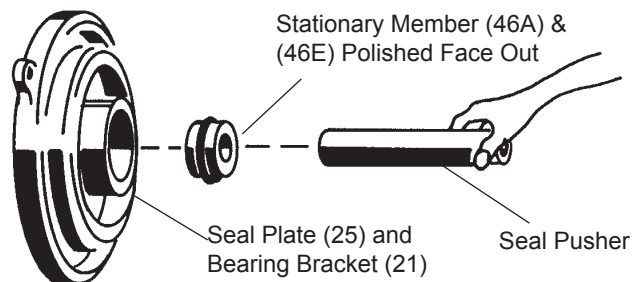

FIGURE 9
Seal - Clean and oil seal cavities in bearing bracket (21) and seal plate (25). Lightly oil (**DO NOT use grease**) outer surface of inboard stationary member (46E) and outboard stationary member (46A). Press inboard stationary member (46E) firmly into bearing bracket (21) and outboard stationary (46A) into seal plate (25), using a seal pusher (see parts list- seal tool kit), nothing but the seal pusher is to come in contact with seal face (See Figure 9).